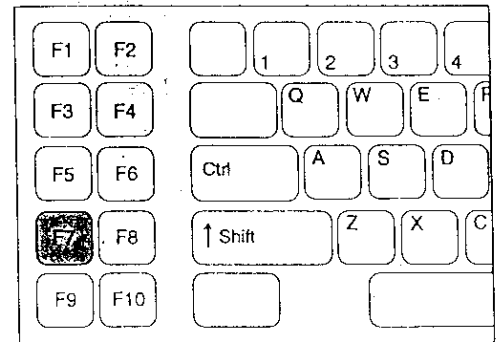

Fig. 21
2. Press the F7 function key (Fig. 21).